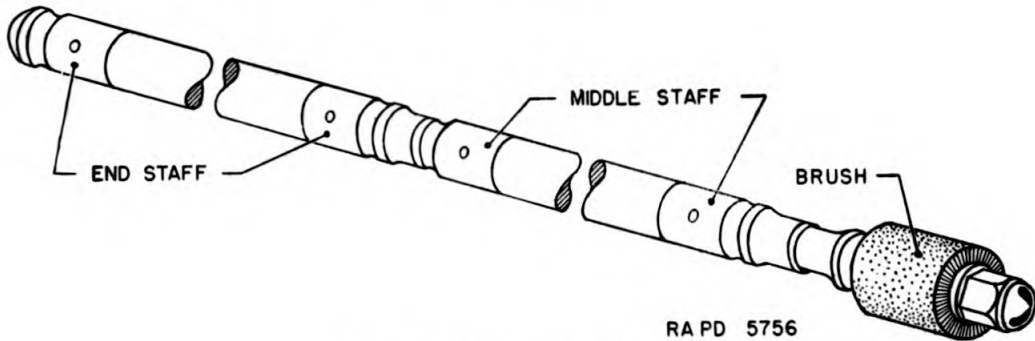

FIGURE 137.—Staff and brush.
(3) *37-mm bore brush M8 and cleaning staff M5A2* (fig. 137).—The brush is screwed to the staff for cleaning the gun tube.